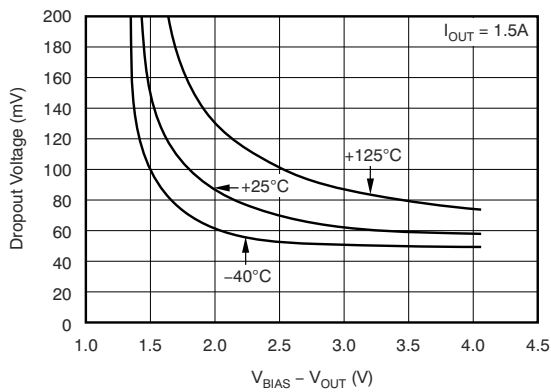

Figure 5-11.  $V_{IN}$  Dropout Voltage vs  $(V_{BIAS} - V_{OUT})$  and Temperature ( $T_J$ )
- (1) Adjustable devices tested at 0.8 V; resistor tolerance is not taken into account.
- (2) Dropout is defined as the voltage from  $V_{IN}$  to  $V_{OUT}$  when  $V_{OUT}$  is 3% below nominal.
- (3) 3.25 V is a test condition of this device and can be adjusted by referring to Figure 5-11.